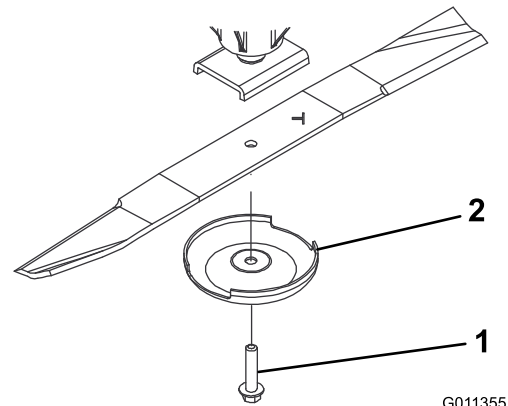

Figure 65
2. Grasp the end of the blade using a rag or thickly padded glove. Remove the blade bolt, anti-scalp cup, and blade from the spindle shaft (Figure 65).
3. Install the blade, sail facing toward the cutting deck, with the anti-scalp cup and blade bolt (Figure 65).
If the blade is allowed to wear, a slot will form between the sail and flat part of the blade (Figure 65). Eventually a piece of the blade may break off and be thrown from under the housing, possibly resulting in serious injury to yourself or bystanders.